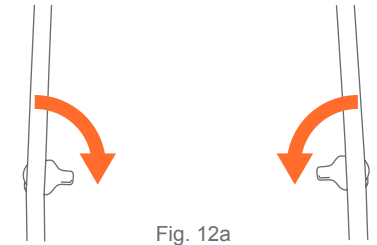

Fig. 12a
- 12)** • Turn car seat support tabs on the stroller frame (Fig. 12a).